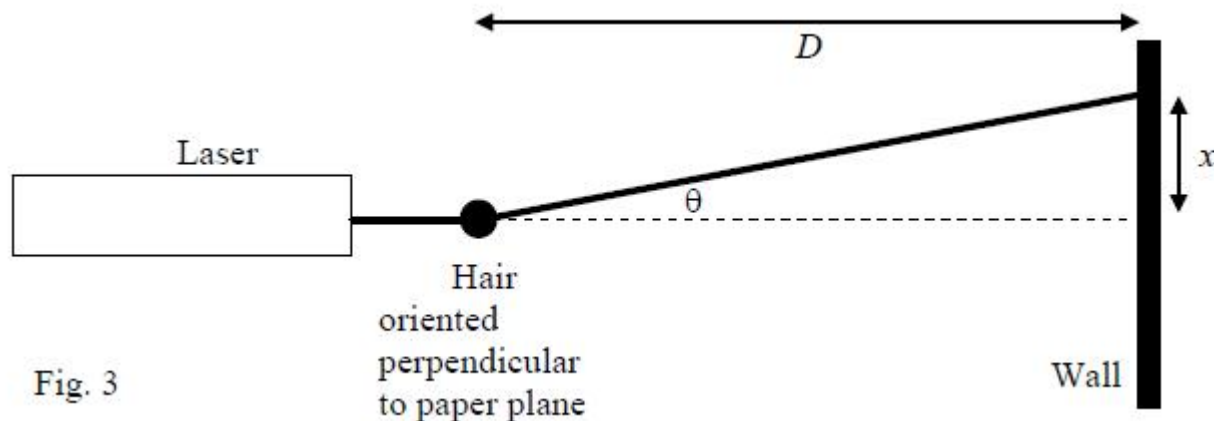

Fig. 3
- A hair from your (or some) human head (but see remark two paragraphs above Fig. 3!)
The equation for diffraction minima is Eq. (17.18) on p. 562 of KJF2. [NOTE: KJF2 uses a (not b) for the width of a single slit, uses L (not D) for the distance from the slit to the observation screen, and uses p (not m) for the integer that counts minima. Please don't be confused by this simple difference in notation.] Using this equation, the small angle approximation, and the geometry in Fig. 3, the diffraction minima can be expressed in the following way: